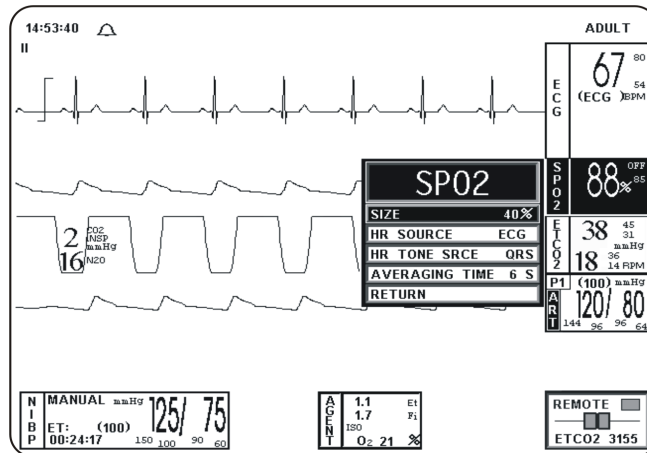

Figure 4-14. The SpO2 Menu
4.5.2 SpO2 Menu. (See **Figure 4-14**) The menu for the SpO2 is brought up with the selection of the **SPO2 Menu-Select** icon. *This menu has a time-out feature. If no action is taken for approximately 60 seconds, the monitor will automatically return to the Normal Screen.*